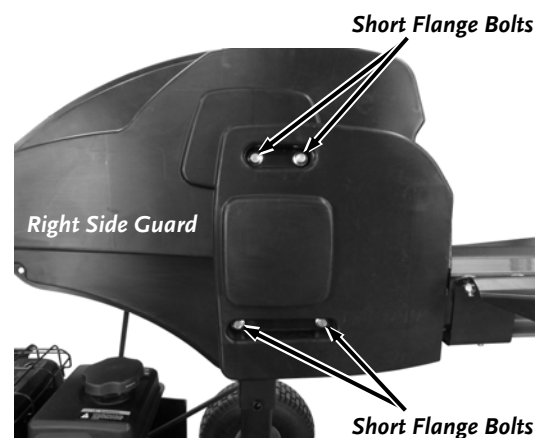

Figure 37
3. Remove the four short Flange Bolts and Locknuts that secure the right side Guard to the Frame using a 9/16" Socket and Ratchet to remove the right side Guard from the Splitter (**Figure 37**).